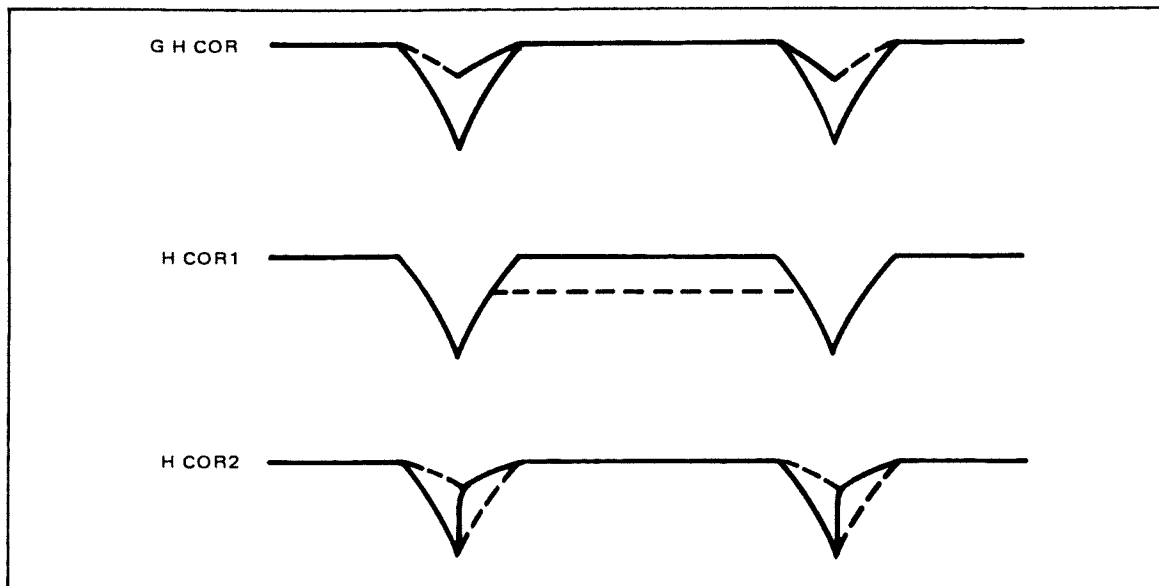

Figure 5-39. Dark Shading Adjustment Waveforms
- STEP 3 Connect scope to TP303 and adjust potentiometers listed below for flattest waveform. Use Process PWA pin 13 for H trigger and pin 15 for V trigger. See Figure 5-39.